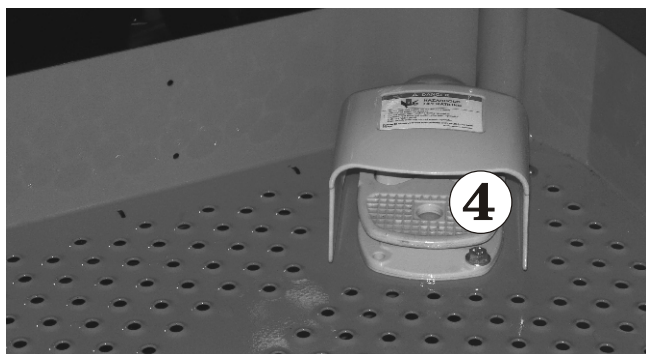

Figure 11.3 - Enable Switch (Foot)
4. Step on the platform foot switch **4** (see Figure 11.3).
Enable 5 or 4 (foot switch - Figure 11.3) Emergency Lower 6